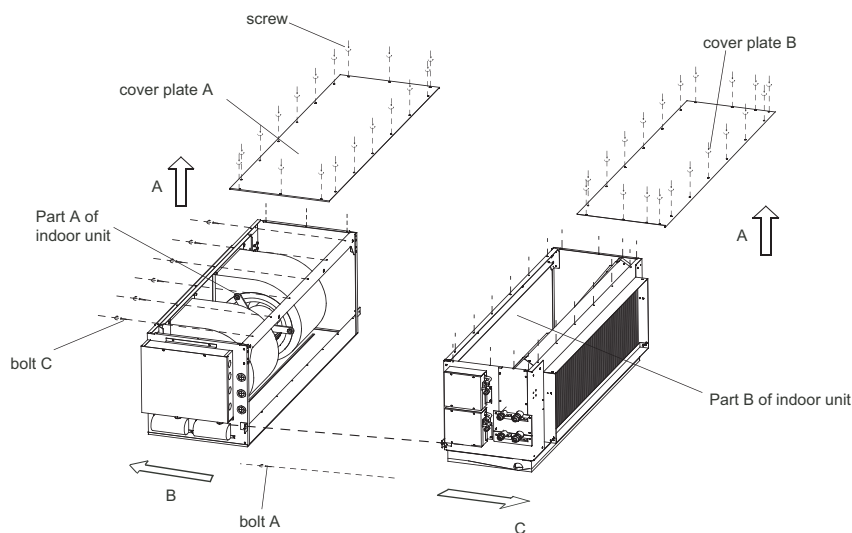

Fig.4-20
- 2 Following Fig.4-20 twist-off the screws, along the direction of A get off the cover plate A and cover plate B.